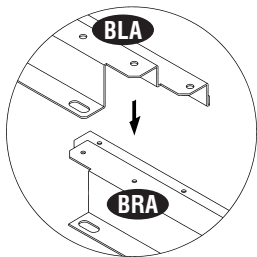

Fig.1
3. Assemble base bar back left (BLA) and base bar back right (BRA) with four (S1) screws. See fig. 1 & 2.